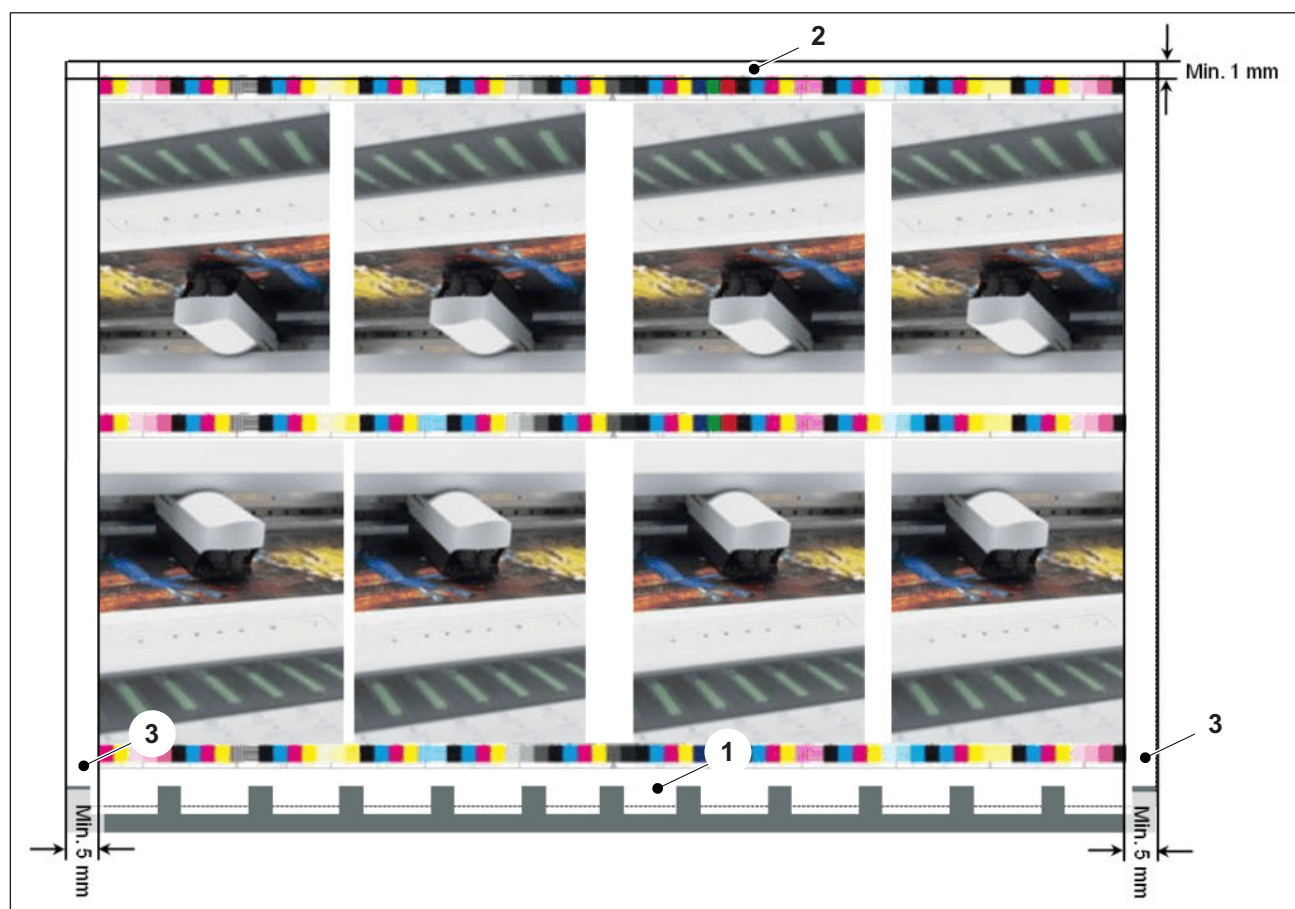

Fig. 12 Mounting Prinect Axis Control on Prinect CP2000 Center
- You can mount the quality control strip at any position you wish between the gripper margin (Fig. 12/1) and the rear edge of sheet (Fig. 12/2).
- In order to facilitate the automatic paper white measurement and detection of the quality control strip, there must be at least 5 mm of paper white between the lateral sheet edges and the start of the quality control strip (Fig. 12/3).